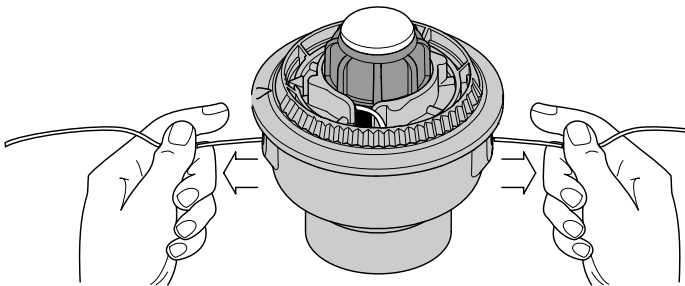

Fig. 22
- If winding the line becomes difficult or the line jams, pull the ends of the line from the spool (Fig. 22). Continue winding the inner reel counterclockwise.
- Hold the inner reel in place and install the bump knob, spring and foam seal. Press down and turn the bump knob clockwise. Grasp the ends and pull firmly to release the line from the holding slots in the inner reel. (Fig. 22).
If the SpeedSpool® does not release line correctly, pull the ends of the line firmly from the spool (Fig. 22). If this does not release line, follow the **Cleaning the SpeedSpool®** instructions.